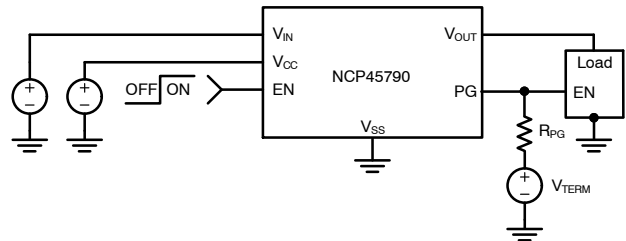

Figure 24. Guaranteed-by-Design Power Sequencing Example
The NCP45790 device has a power good output (PG) that can be used to indicate when the gate of the MOSFET is fully charged. The PG pin is an active-high, open-drain output that requires an external pull up resistor, R_{PG} , greater than or equal to 100 k Ω to an external voltage source, V_{TERM} , that is compatible with input levels of all devices connected to this pin (as shown in Figures 24). The power good output can be used as the enable signal for other active-high devices in the system (as shown in Figure 24). This allows for guaranteed by design power sequencing and reduces the number of enable signals needed from the system controller. If the power good feature is not used in the application, the PG pin should be tied to GND.